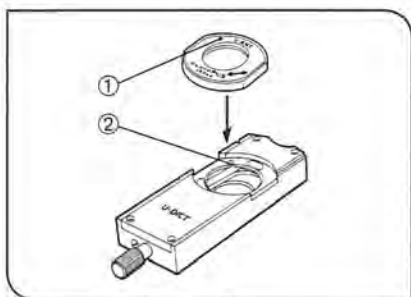

Fig. 60
3 Attaching the Analyzer and DIC Slider (Figs. 60 to 62)
2. Align the index ① of the U-DICT analyzer and the positioning groove ② of the U-DICT DIC slider and drop the analyzer into the analyzer mount of the DIC slider. (Fig. 60)